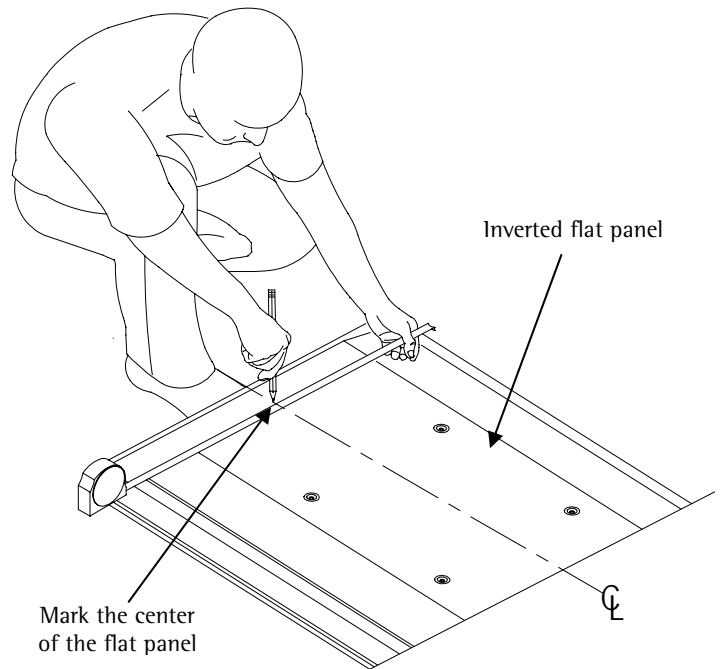

Figure 2
2. Using a pencil lightly mark the center of your flat panel (Figure 2).